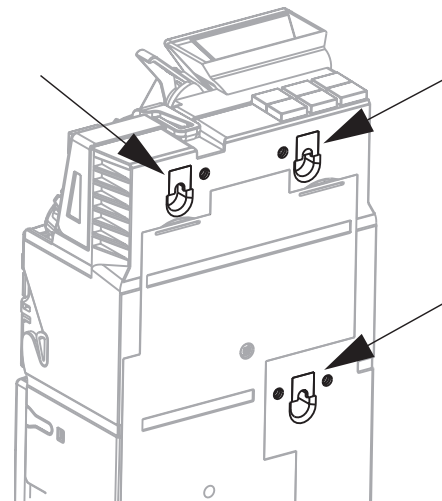

Fig. 3: Control panel for the c² blue
- 2** Mount coin changer to vending machine, using three fastening holes on coin changers rear side (fig.3).